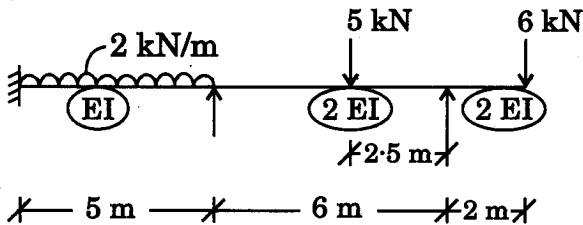

Figure 2
2. Analyse the beam as shown in Fig. 2. Calculate the support moments and reactions. Flexural rigidity is given as in circles. Draw the B.M. and S.F. diagrams